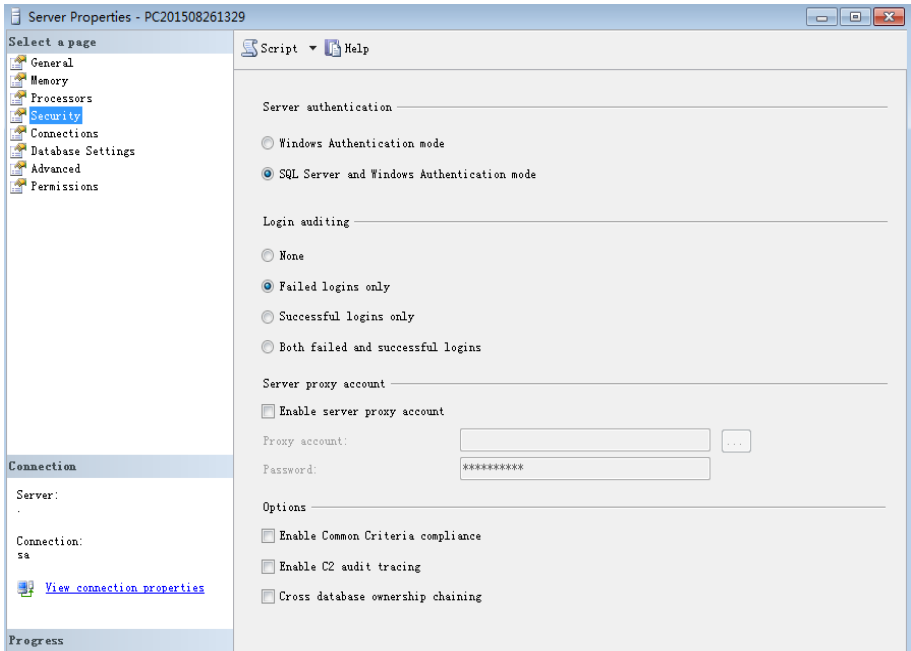

Fig.1.2 Server Properties
**Step Two:** After clicking “Properties”, choose “Security” on the left, then choose “SQL Server and Windows Authentication mode” in Server authentication, choose “Failed logins only” in login auditing (see Fig.1.2).